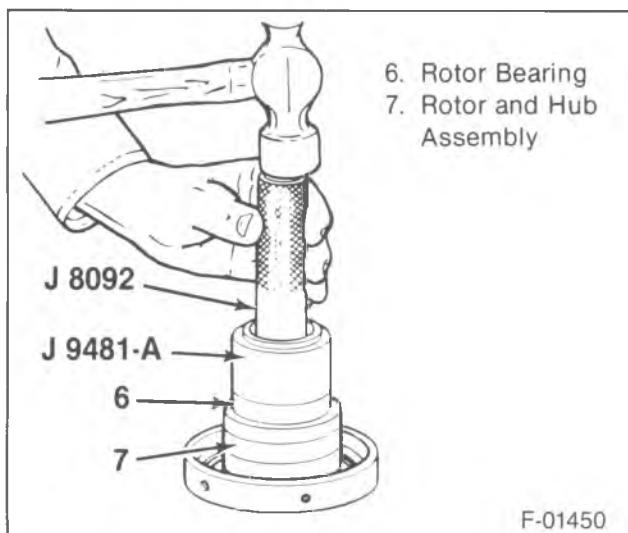

Figure 11—Installing the Clutch Rotor Bearing
- Bearing (6) to the rotor hub with J 8092 and J 9481-A (figure 11).
↔ Install or Connect (Figures 11 and 14)
- Bearing to the rotor and hub assembly with J 8029 and J 9481-A (figure 11).
- Using a center punch with a 45 degree angle point, stake 1.1-1.4 mm (0.45-0.55 inch) deep in the places 120 degrees apart (figure 11).